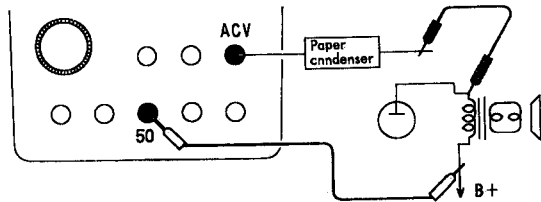

Fig. 5
- a. A paper condenser of 0.1 microfarad, or more, is connected in series with meter as shown in Fig. 5. Do not use an electrolytic condenser.
- c. The AC voltage scales of the meter read output voltage (AF). They are converted to sound level by reading the decibel scales in pair on the bottom.